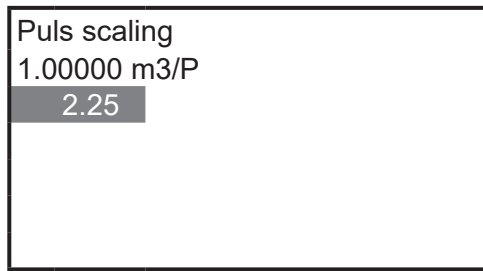

Figure 26 Setting the pulse weight
- A display to input a value for the pulse weight then appears. (Figure 26) Enter a 7-digit number including the decimal point. Once a value has been inputted, press